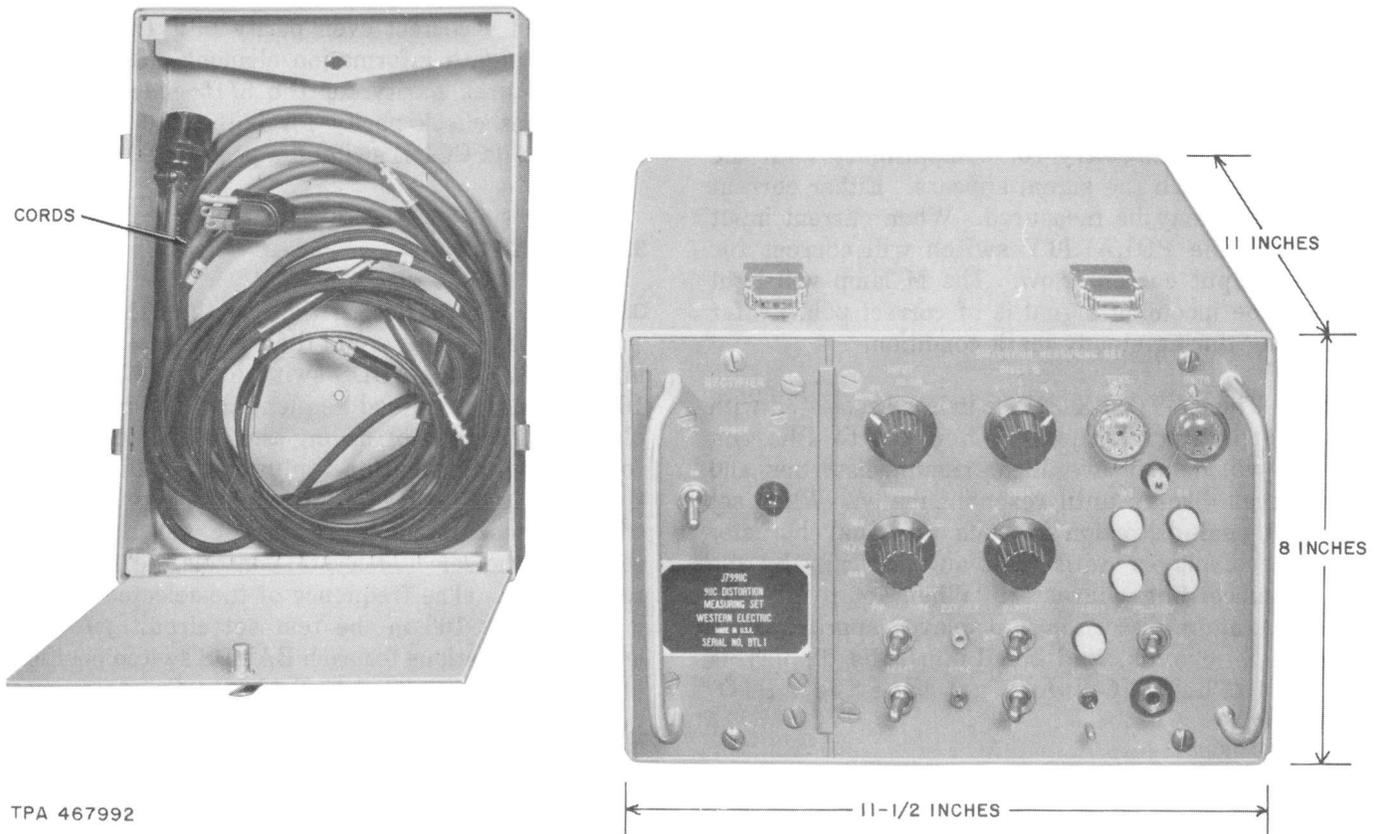

Fig. 4—J79911C-1 Distortion Measuring Set With Cover Removed
1.06 The 911C DMS is available as an individual portable test set housed in a gray metal case the same size as the 911B TSG. The method of storing the cords is shown in Fig. 4. A translator matrix card is not required in the 911C DMS.
2.13 The 911C DMS (Fig. 4) is used to measure the quality of low-speed data signals, such as teletypewriter signals.